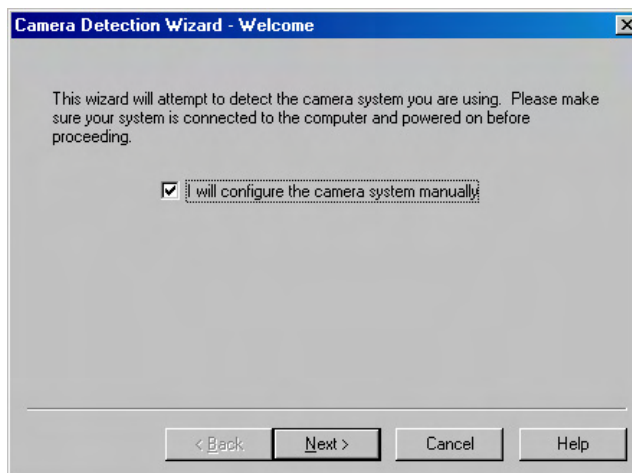

Figure 12. Camera Detection Wizard - Welcome (Manual selected) dialog box
2. On the **Welcome** dialog (Figure 12), select the checkbox and click on **Next**.